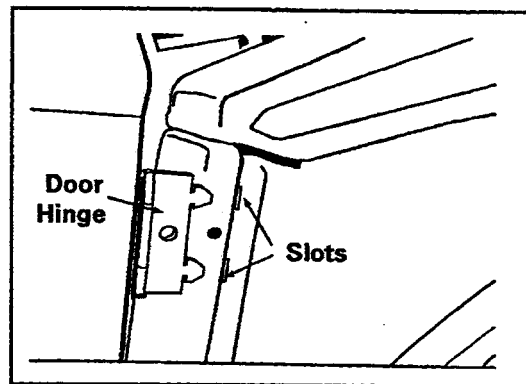

Figure 2-11
2. Open the door and remove the center screw of each hinge secured (Figure 2-11).